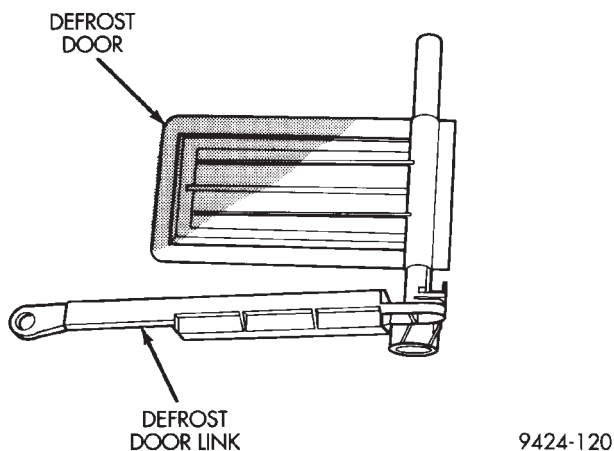

Fig. 82 Link Removal From Door
(26) Remove defrost door link from door (Fig. 82).